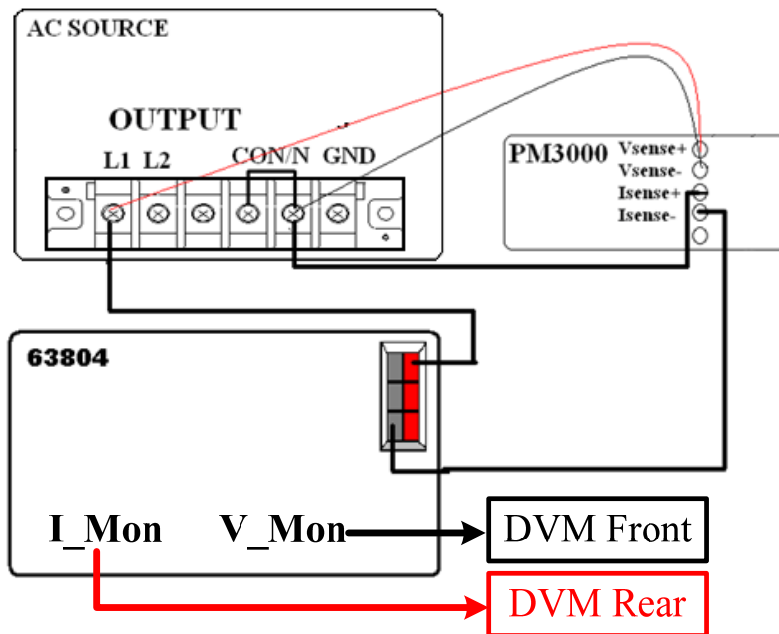

Figure 10-1: AC Load, AC Source, Power Analyzer and DVM Wiring Diagram
1. *Figure 10-1*: Use AC Source to output for connecting L1 and N. PM3000A consists of current and voltage terminal. The current terminal used cable needs to withstand current 45A above and withstand voltage 500V DC above. The voltage terminal requires withstanding voltage 500V DC above, withstanding current 0.1A above. The voltage terminal of PM3000A, Remote Sense terminal of DVM and AC Load should be at the same location, moreover it had better close to output location of AC Source. Use BNC to alligator clip cable to connect DVM Front terminal to V_Mon terminal of AC Load. However, use another BNC to alligator clip cable to connect DVM Rear terminal to I_Mon terminal of AC Load.
AC wiring diagram is as *Figure 10-1*, please switch AC Load to CF only mode. The procedures are described as follows.